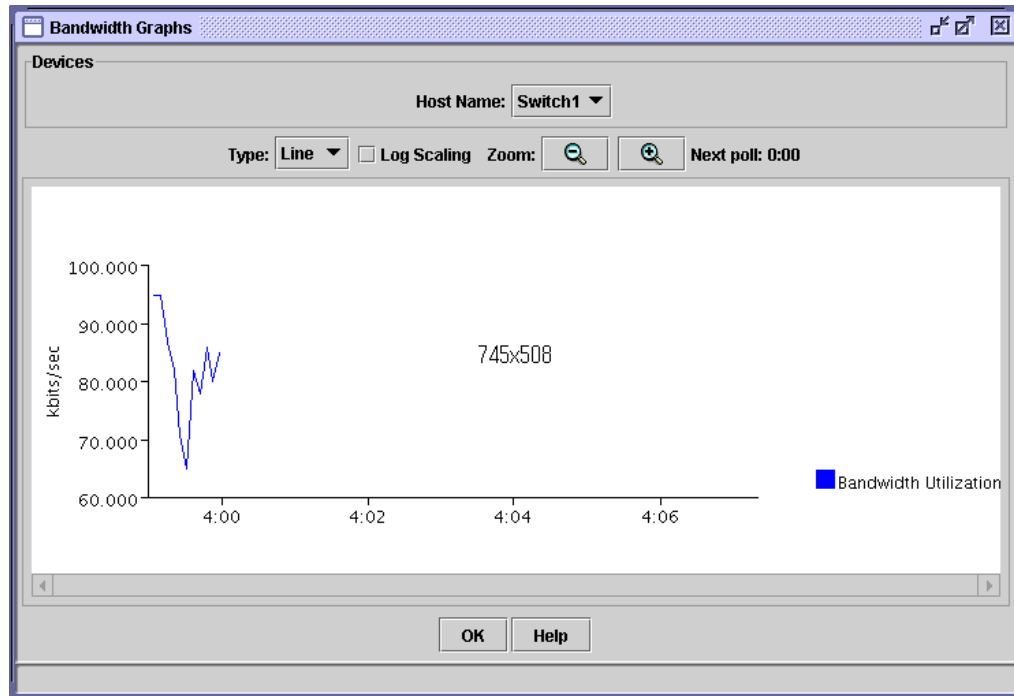

Figure 5-17 Device pop-up menu: Bandwidth Graphs
- Bandwidth Graphs (Figure 5-17 on page 36)